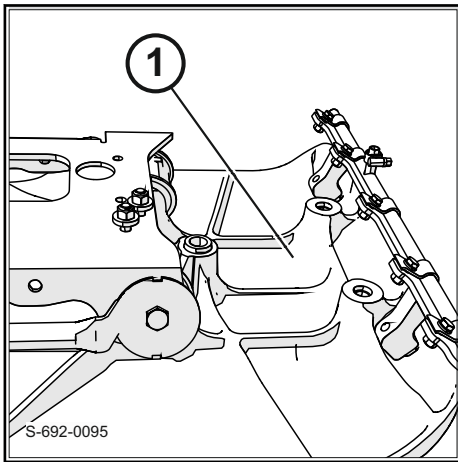

Fig. 83
1. Clean the base plate (1) ↪ Fig. 83.